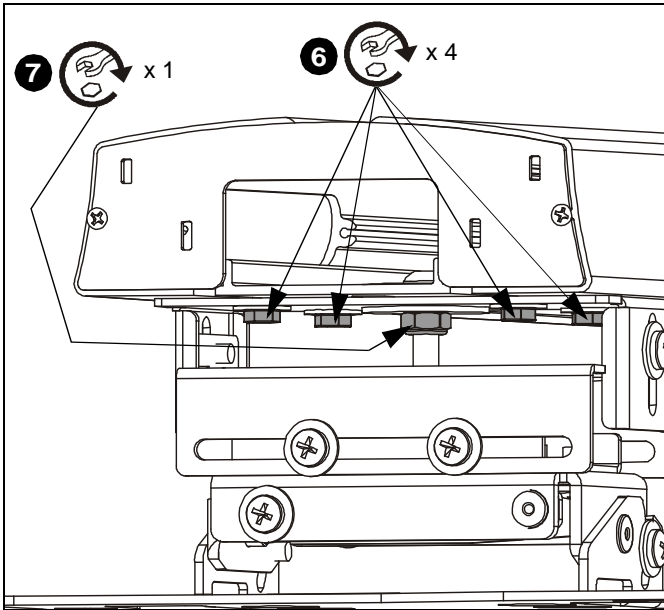

Figure 15
6. Tighten four hex head bolts, making sure image is square with wall. (See Figure 15)
7. Tighten center nut. (See Figure 15)